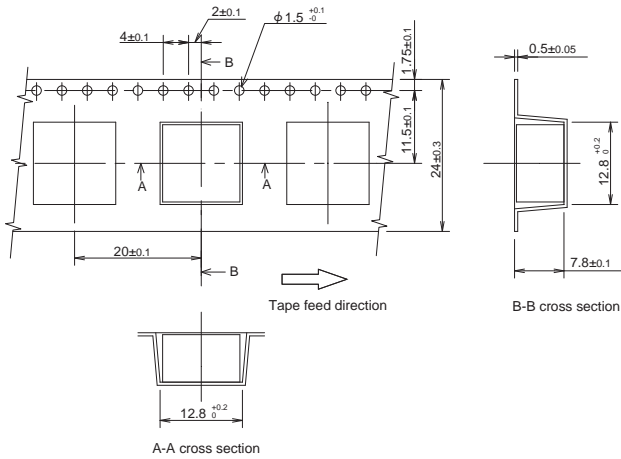

Fig.9.1 Taping dimensions of BRNS6/12
- Please refer to a Fig.9.1 to Fig.9.3 for Package form (Reel).